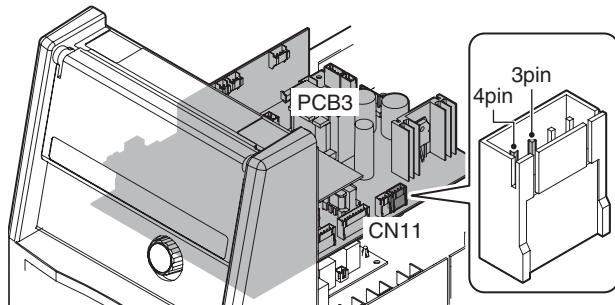

Figure 6-13: Verification of the SOL1
- 1) Verify the voltage between the PIN 3 (Positive [+]) and PIN 4 (Negative [-]) of connector CN11 on PCB3 (WK-5548) while you press the torch switch while in TIG Mode. (The capacity of the voltmeter should be more than 50VDC.) The location of connector CN11 of PCB3 (WK-5548) is indicated in Figure 6-13. When you measure the above voltage, do not remove the connector. Conduct the measurement while the connector plug and receptacle are still connected.